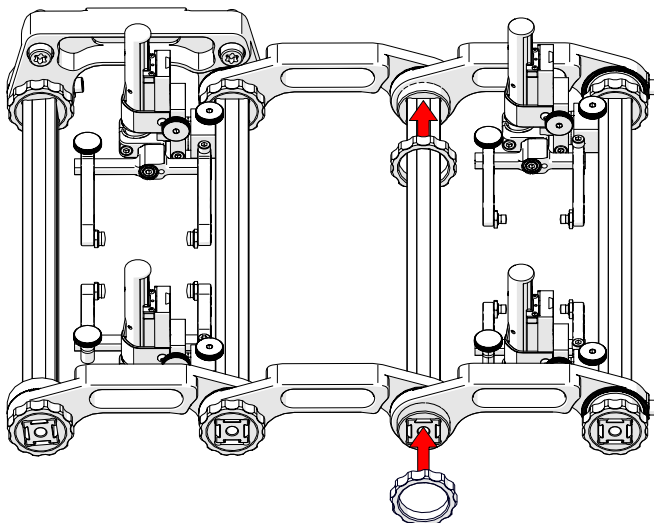

Fig. 149 - Attach the probe holder frame nuts
13. Thread on the two probe holder frame nuts (Fig. 149).